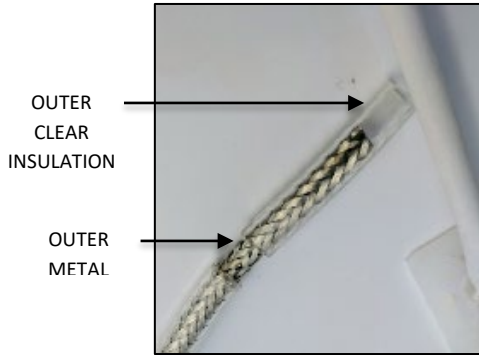
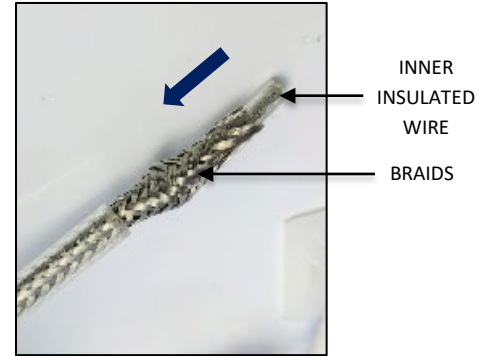

FIG. 34
FIG. 35
1. Strip off 1.00" of outer clear insulation exposing the outer metal braiding as shown in FIG. 34 below. **Be careful not to cut or damage the outer metal braiding.** Gently push braiding down to loosen the individual braids exposing the inner insulated wire as shown in FIG. 35 below.